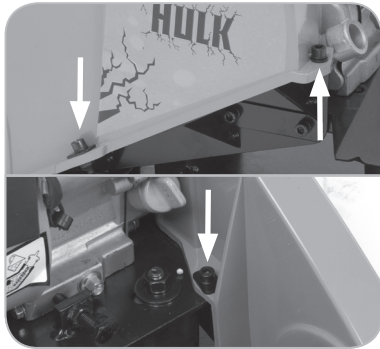

Fig. 16
- Remove the Belt Guard by removing the three (3) socket headed screws (**Fig. 16**) using a hex key and spanner (not supplied) and store safely for future use.